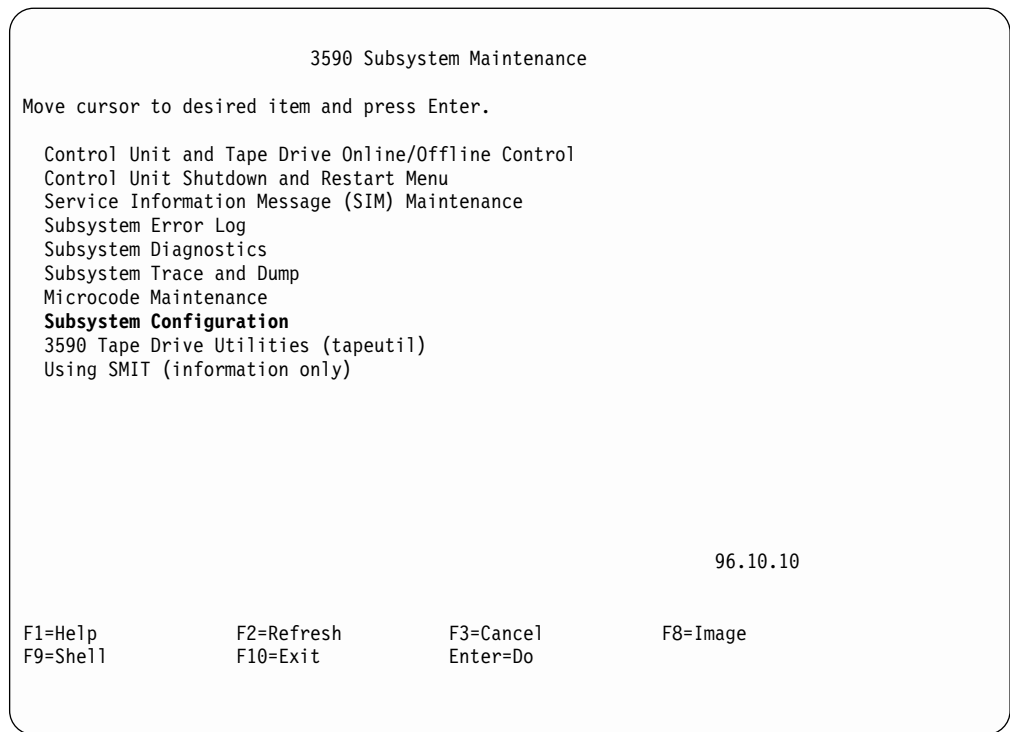

Figure 138. &3590 Subsystem Maintenance Screen
2. From the main service menu select "Subsystem Configuration" (see Figure 138 on page 393)